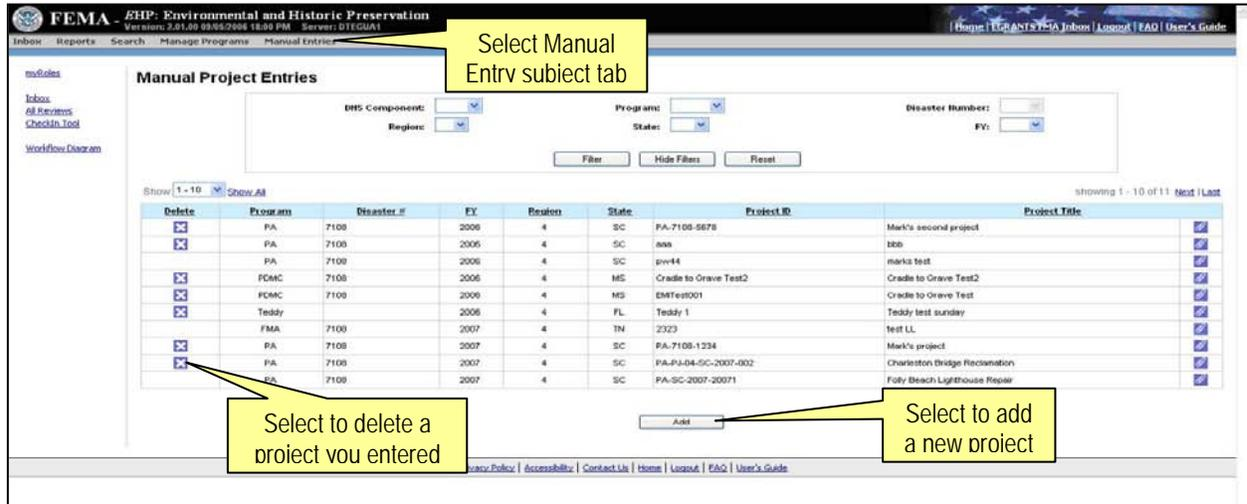

Figure 5.9: Manual Project Entries
- Select the **Add** command button from the bottom of the *Manual Projects Entries* screen (Figure 5.9).
Enter the required information on the *Manual Project Entries: Add New Project* screen, and click the **Save** command button. From the Manual Project Entries screen (Figure 5.9), select the paperclip icon next to the manually-entered project to attach project documentation, such as a Statement of Work, photographs, maps, etc. that are relevant to the project in general. Attach law or EO-specific documentation to the appropriate law or EO.